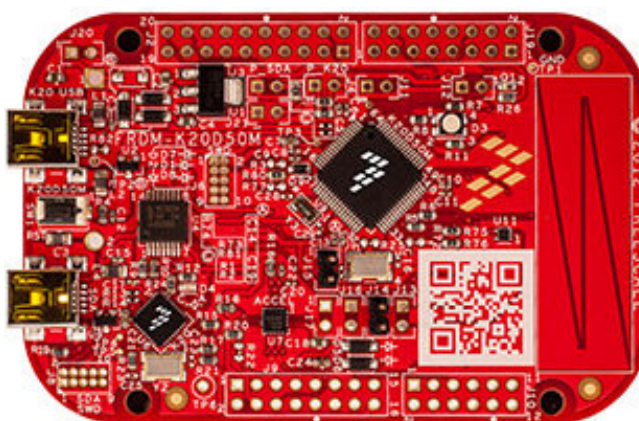

Figure 4. K20D50M Freedom Development Platform (FRDM-K20D50M)
- K20D50M Freedom Development Platform, Figure 4, based on the Kinetis K20 family MK20DX128VLH5 MCU